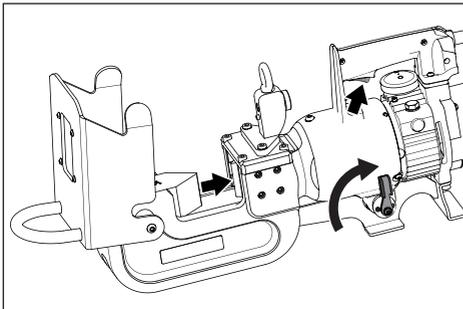

Figure 8, Retract Piston
- With the directional lever in position 2, press and hold the trigger to retract the piston and slide the moving blade rearward. See Figure 8.
Be sure that the piston and moving blade are located in the fully retracted "home" position before placing the chain inside the cutting head. See Figure 8.
3. Be sure that the piston is in the "home" (fully retracted) position. See Figure 8.